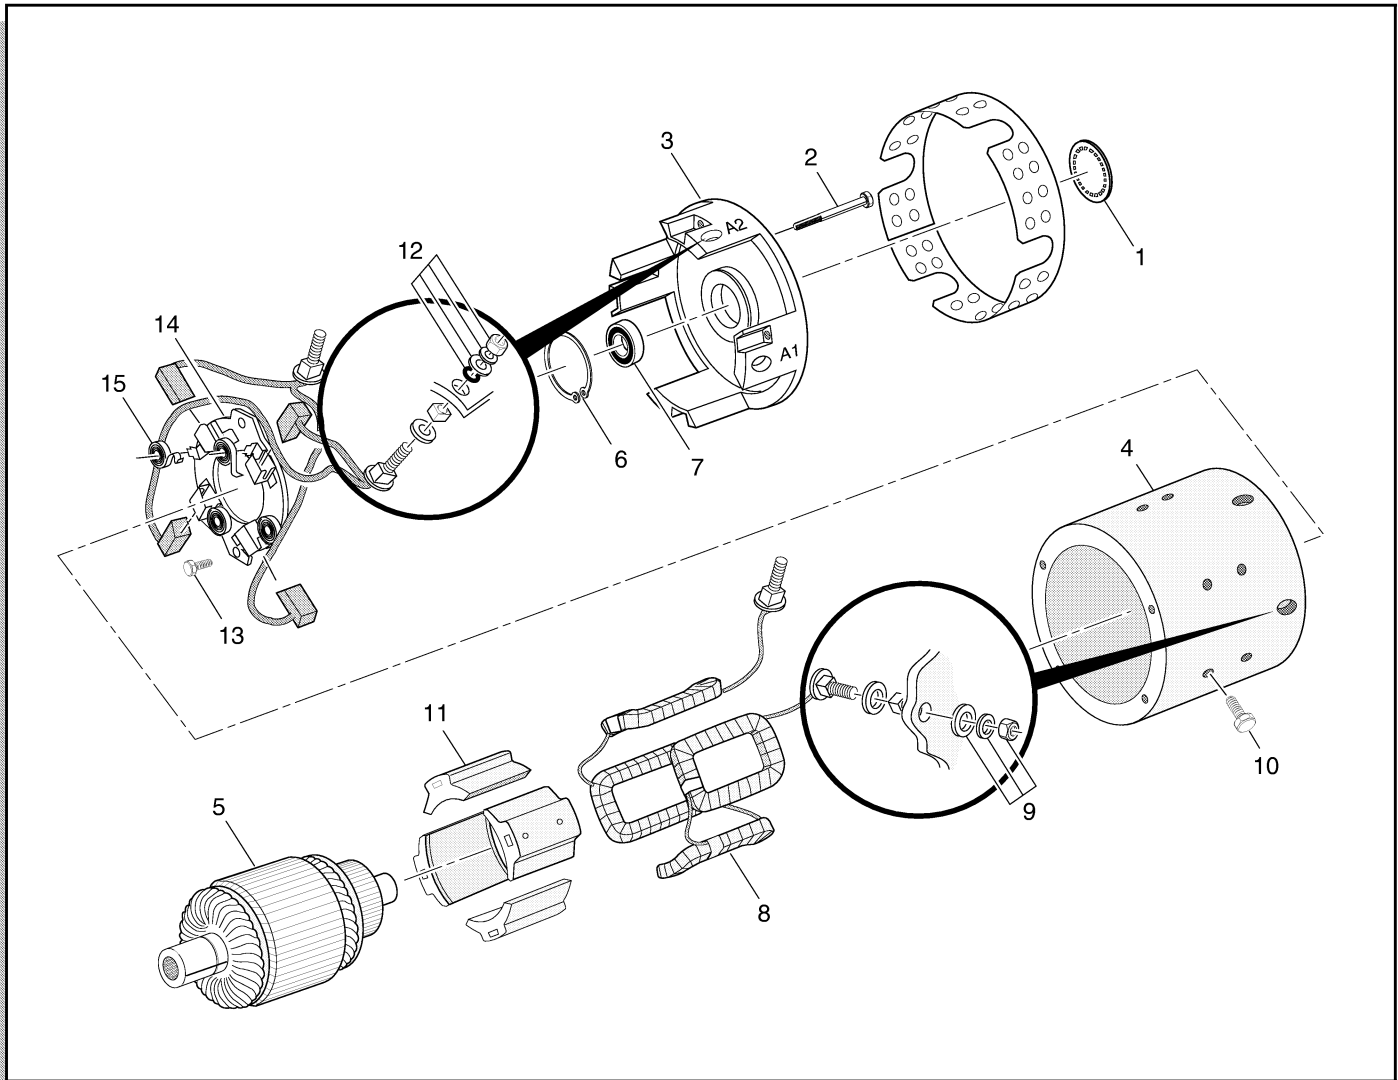

Fig. 3 Motor Components
Remove bearing cap (1) (Ref Fig. 3 on page H-2).
To replace field coil (8), remove field coil terminal hardware (9) at S1 and S2 (Ref Fig. 3 on page H-2).
Remove brush terminal hardware (12) at A1 and A2 (Ref Fig. 3 on page H-2).